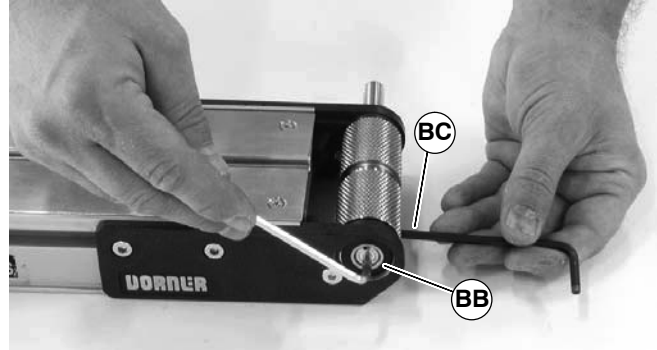

Figure 45
5. With 4mm hex-key wrench, tighten pulley taper screw (BB of Figure 45) to 8.5 Nm. Steady pulley with second hex-key wrench (BC) inserted into pulley hole.